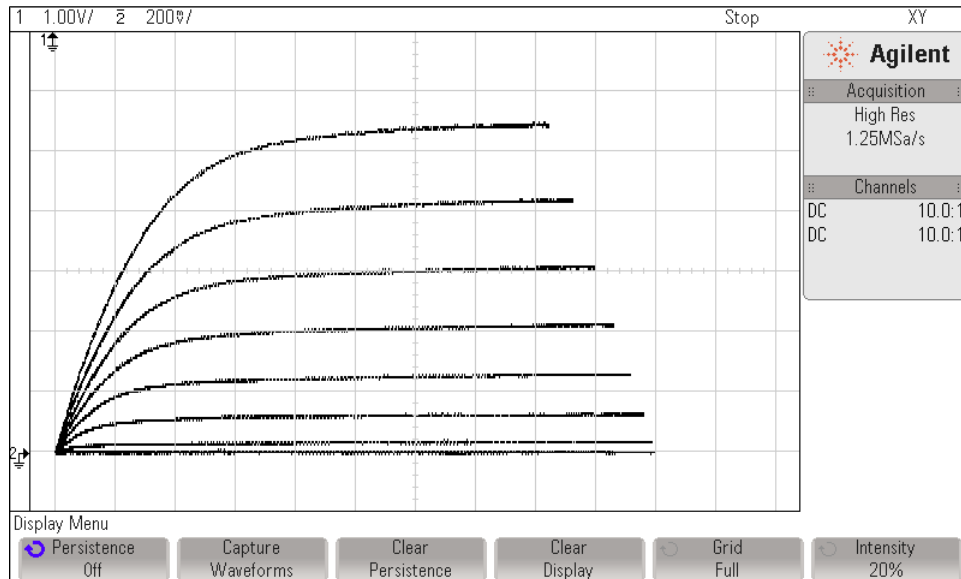

Figure 7. Family of Curves.
12. Adjust the power supply so that  $V_{GS} = -1V$  (reverse the power supply leads to obtain a negative voltage). The display on the oscilloscope should be close to what is shown in Figure 7.